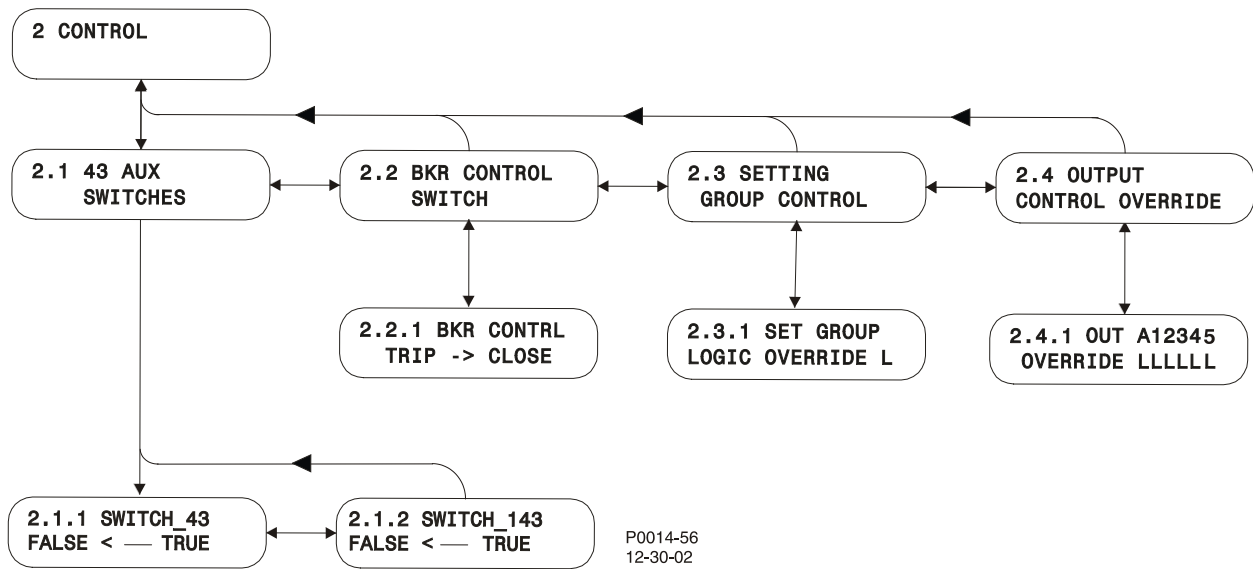

Figure 10-4. Control Menu Branch Structure
2. CONTROL – Accesses control function operation of virtual switches, active setting group selection, and others. Control menu branch structure is illustrated in Figure 10-4.